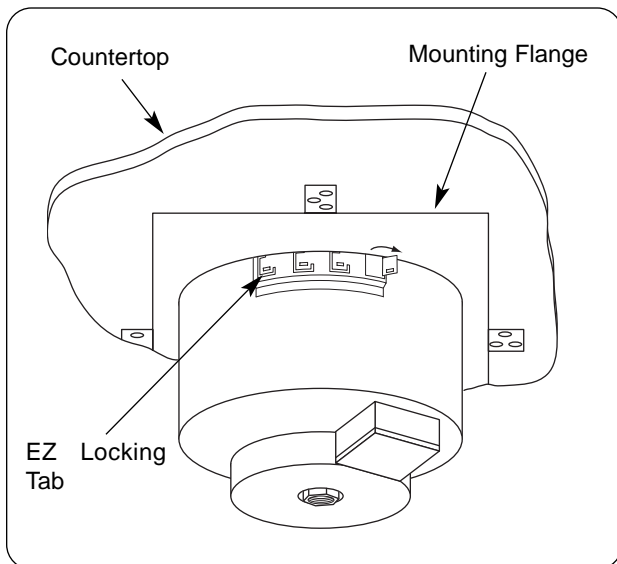

Figure 10. EZ Locking Tabs
8. Use a screwdriver to rotate the EZ locking mounting system on the Built-In Heated Well outward, to secure the unit from the underside of the mounting flange. Twist as many tabs as needed to secure unit to mounting flange. (See Figure 10.)